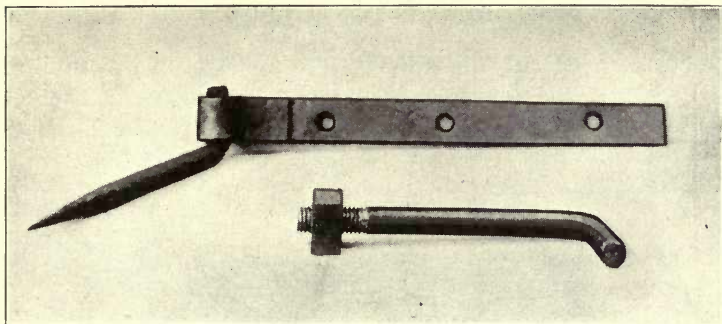

FIG. 23. GATE HINGE.
6. Heat a rivet of the proper size (make one if necessary), and rivet together. Fig. 23 shows the completed hinge, with the holes punched instead of drilled.
Notes.—The hook part, A, may be made with the end threaded instead of pointed. See drawing and Fig. 23. In Fig. 23 is shown a nut which was hand made. A piece of square stock was upset to the proper size, a $\frac{1}{2}$ -inch hole drilled and the hole tapped with a $\frac{5}{8}$ -inch tap.